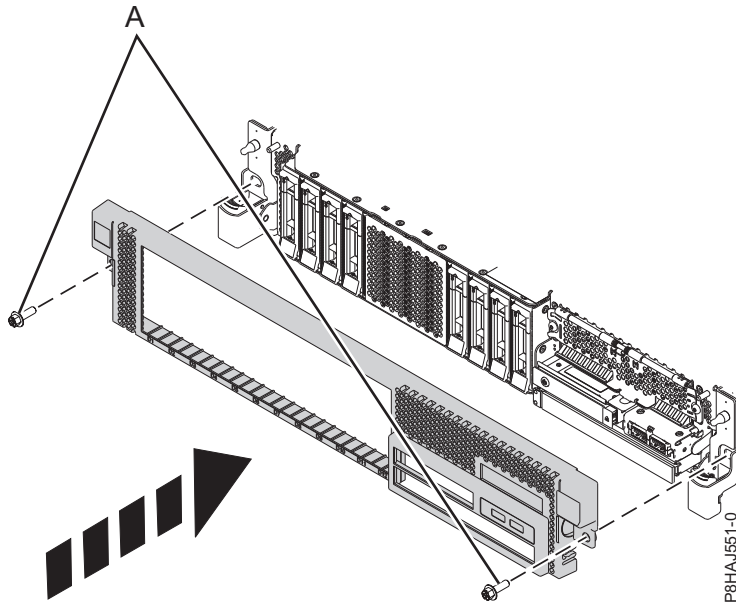

Figure 27. Installing the front cover
3. Close the release latches by pushing in the direction shown in Figure 27 on page 43. The cover snaps into place and has an indentation where you can hold onto it more easily.
4. Replace the shipping screws (A).